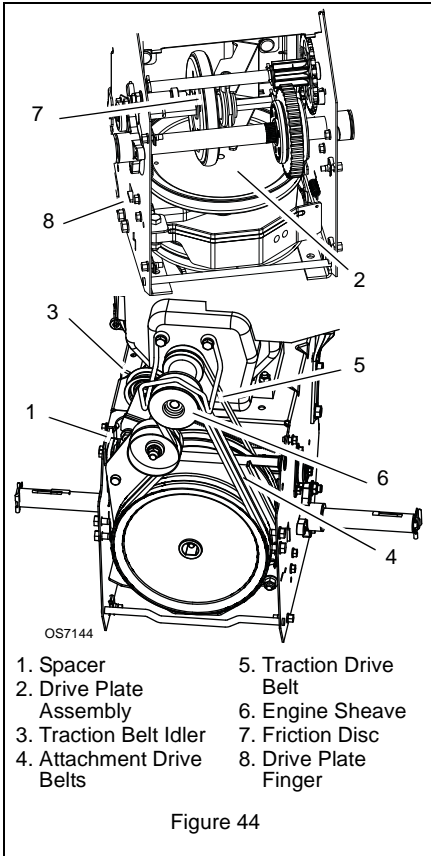

Figure 44
- 2. To gain belt clearance, remove swing gate spacer and slide drive plate over so that finger clears stop hole in frame and can swing past it (Figure 44).